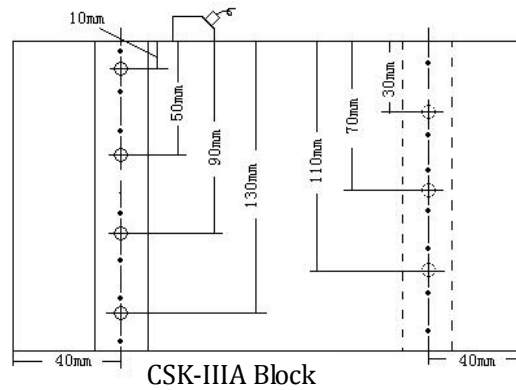

Figure 4-10
2. Couple the probe to the reference block to make the echo of the first reference point reach the highest level (we use CSK-III A test block as an example, as shown in Figure 4-10).